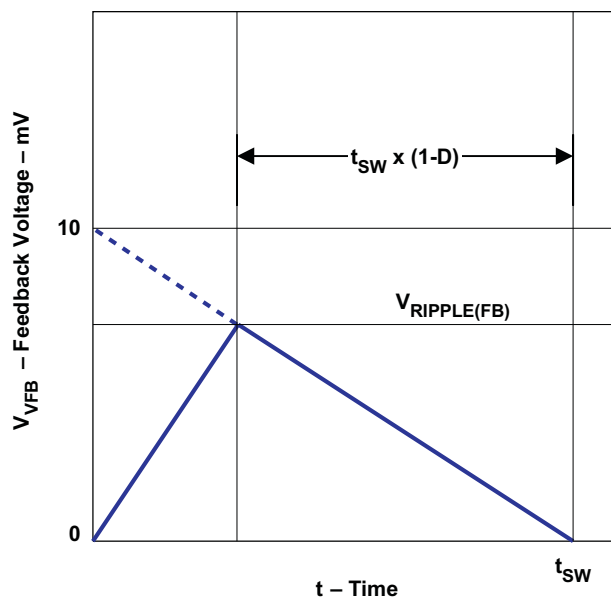

Figure 18. Ripple Voltage Down Slope
- the output ripple down slope rate is 10 mV/tsw in terms of VFB terminal voltage as shown in Figure 18
- (8)